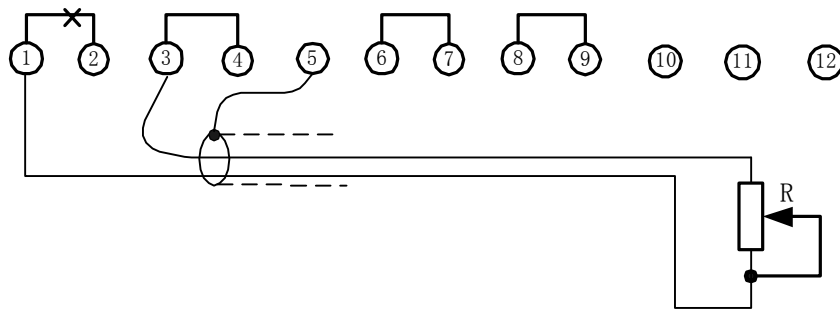

Fig. 7
a. Disconnect (1) and (2), the shielded two—wire cable is connected as shown in Fig.7.